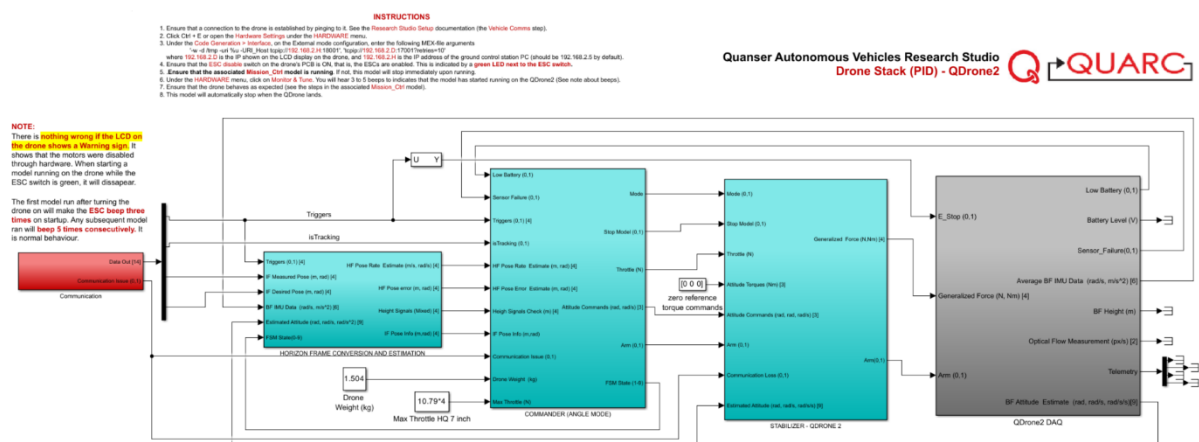

Figure 2. Drone Stack Model
3. From the same folder containing this file, open the folder QDrone 2 Hover Test, and open QD2_DroneStack_PID_2021a.slx (Figure 2).